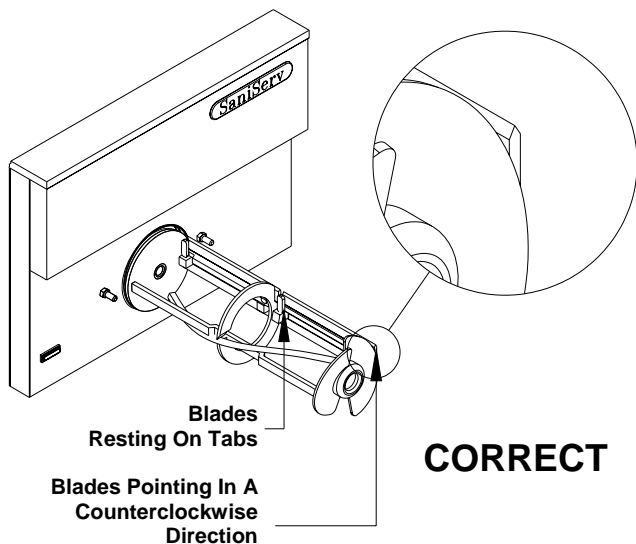
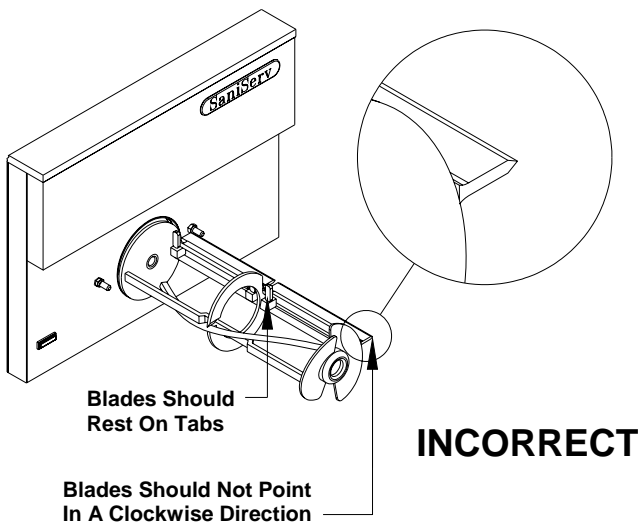

Fig. 15
Fig. 16
e. Insert the dasher assembly into the freezing cylinder as far as possible (Fig. 15) being careful not to damage the scraper blades. Damage will occur to the scraper blades and the dispenser will not operate properly if the scraper blades are installed facing in a clockwise direction (Fig. 16).
Note: The stator rod has been deleted from Fig. 15 and Fig. 16 for clarity only. They must be installed for proper machine operation.